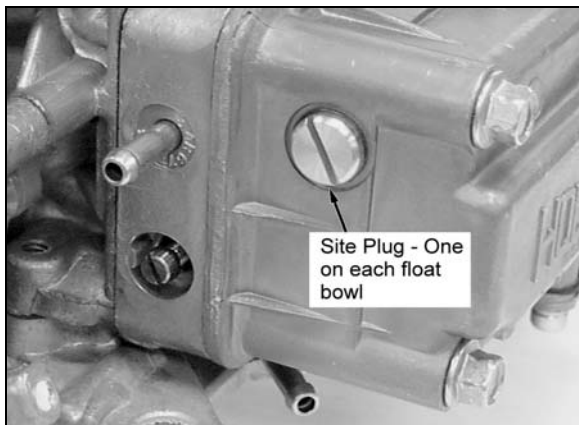

Figure 6
9. This carburetor is equipped with an electric choke. One short and one long wire will be found in the enclosed parts pack. The short wire should be connected to the negative (-) terminal on the choke cap and the other end secured to a ground, such as under the head of one of the screws retaining the secondary throttle diaphragm cover. The long wire should be secured to the positive (+) terminal on the choke cap, with the other end connected to an ignition activated 12V source. The ignition coil is not a 12 volt source after cranking, it is a 7-9V source after cranking. See Figure 6.